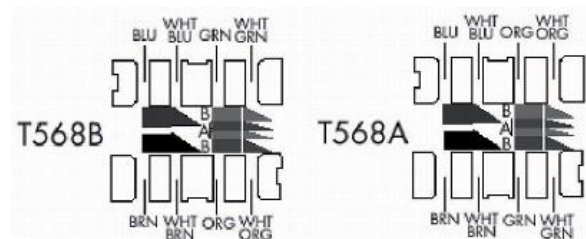

Fig. 4
1. Refer to wiring map (see Fig. 4).